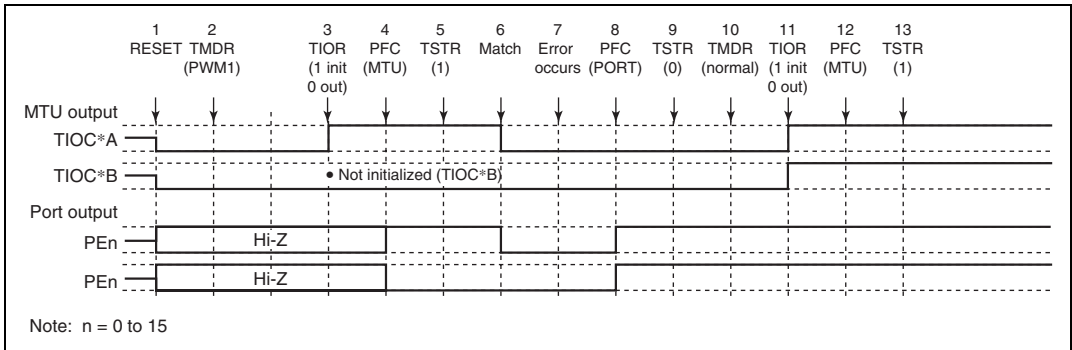

Figure 10.64 Error Occurrence in PWM Mode 1, Recovery in Normal Mode
(5) Operation when Error Occurs during PWM Mode 1 Operation, and Operation is Restarted in Normal Mode: Figure 10.64 shows an explanatory diagram of the case where an error occurs in PWM mode 1 and operation is restarted in normal mode after re-setting.
1 to 9 are the same as in figure 10.64.